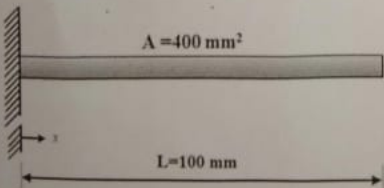

Figure. 4
08. For the one-dimensional bar shown in Figure.4, determine the first two natural frequencies of longitudinal vibration using two elements of equal length. Take $E=2 \times 10^5$ N/mm², 0.8×10^{-4} N/mm³, and $L=400$ mm. [20]